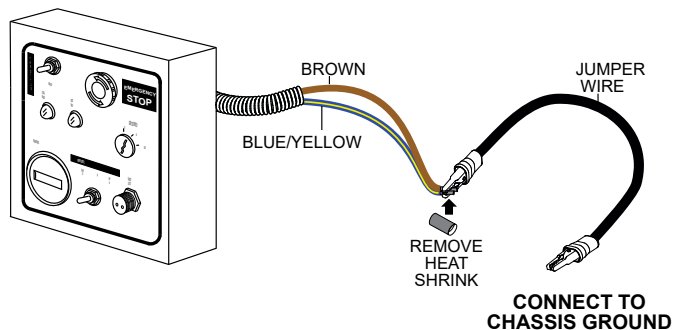

Figure 36. Ground Connection
5. To trigger the flash code on machines built in 2018 or 2019, locate the brown and blue/yellow wires joined together at the back of the control box, tucked inside the split loom. Remove heat shrink covering the brown and blue/yellow wires (Figure 36).
6. Connect the brown and blue/yellow wires to chassis ground. See Figure 36.